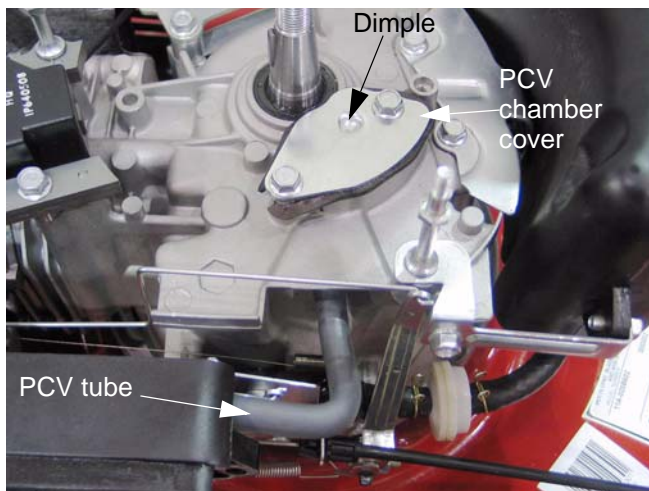

Figure 3.6
5. The PCV chamber is accessible by removing the flywheel, as described in the IGNITION SYSTEM chapter of this manual. See Figure 3.6.